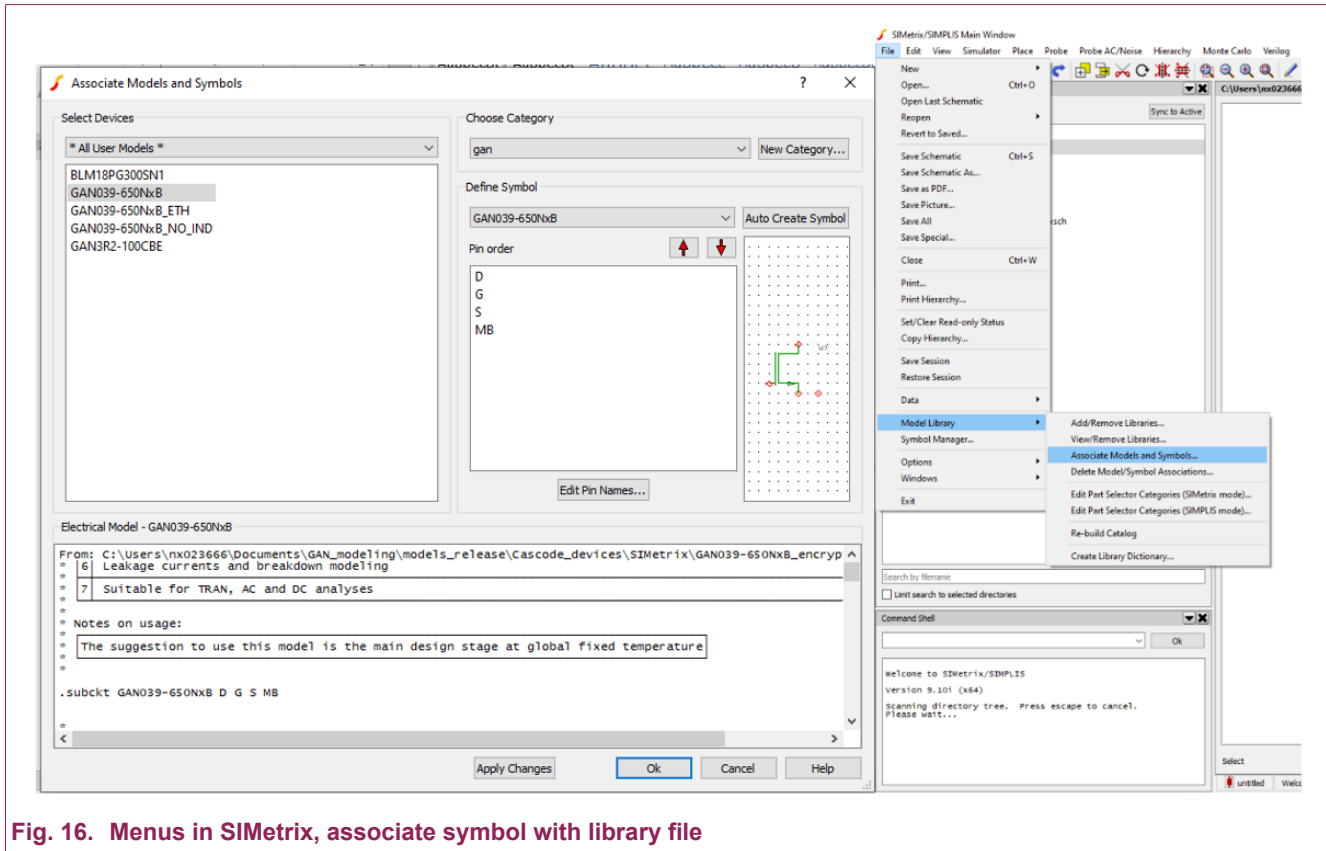

Fig. 16. Menu in SIMetrix, associate symbol with library file
- Associate Symbol file: File -> Model Library -> Associate models and symbols -> New Category -> Define Symbol -> Ok. See Fig. 16.